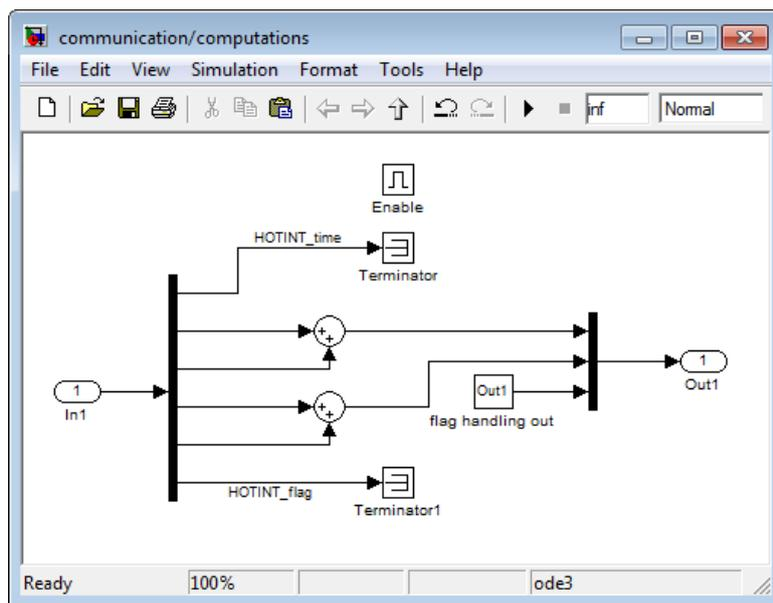

Figure 3.60: Subsystem computations
(4) Set the "Sample Time" of every block (TCP/IP Receive, Constants,...) and choose fixed step size in the "Solver Options".
(5) Open the subsystem "computations", see figure 3.60. This subsystem contains all computations  $\mathbf{y} = \mathbf{f}(\mathbf{u})$  with input  $\mathbf{u}$  and output  $\mathbf{y}$ .